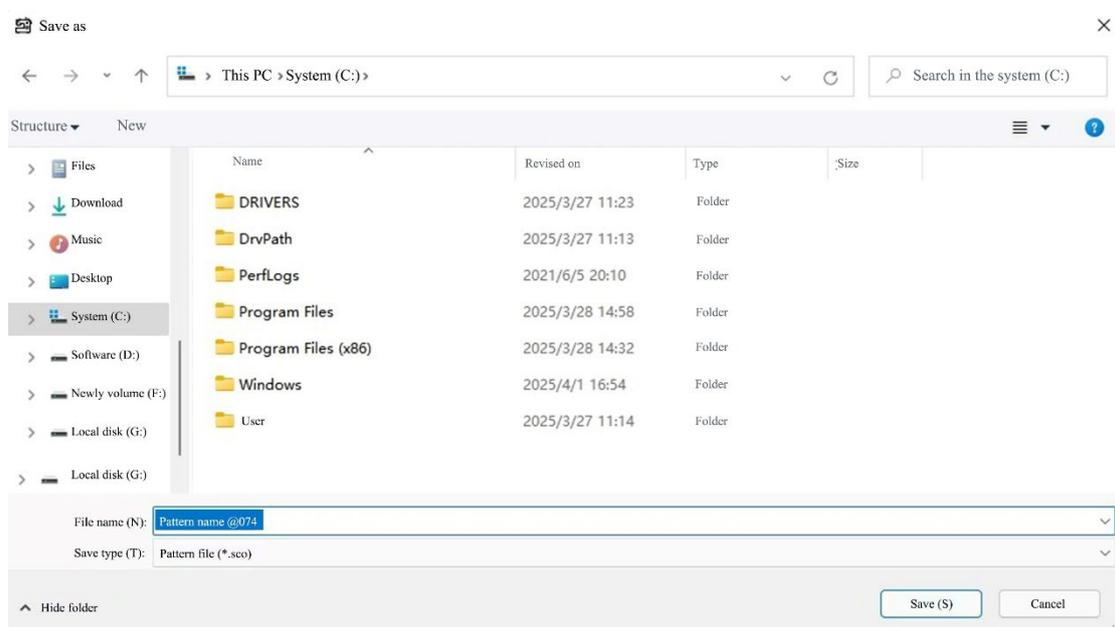

Fig. 7.5.2b File Saving Page
Operation: ① Click the "Output File" button to pop up the file save page. As shown in Fig. 7.5.2b below.